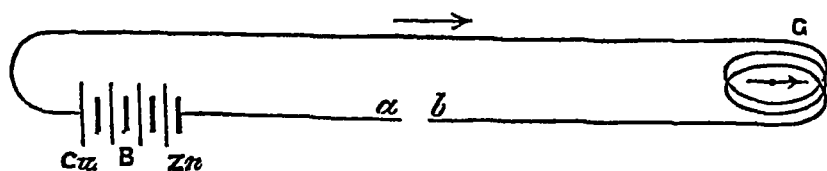

FIG. 224
**Telegraphy**—If the wire from a battery B (fig. 224), after traversing a distance, be doubled so as to surround a magnetic